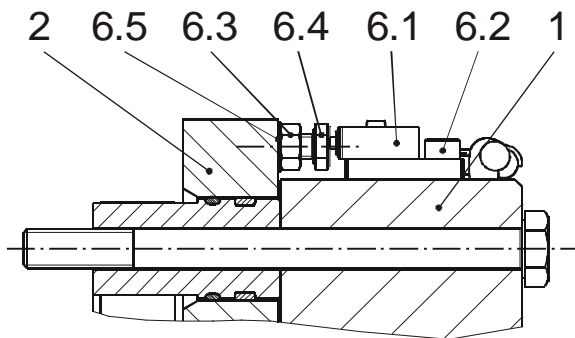

Fig. 10
Release Monitoring (6) Fig. 10 (Option, dependent on Type)
Manufacturer-side Adjustment and Functional Inspection of the Microswitches (6.1), see Fig. 10: Brake mounted and secured with the nominal torque.